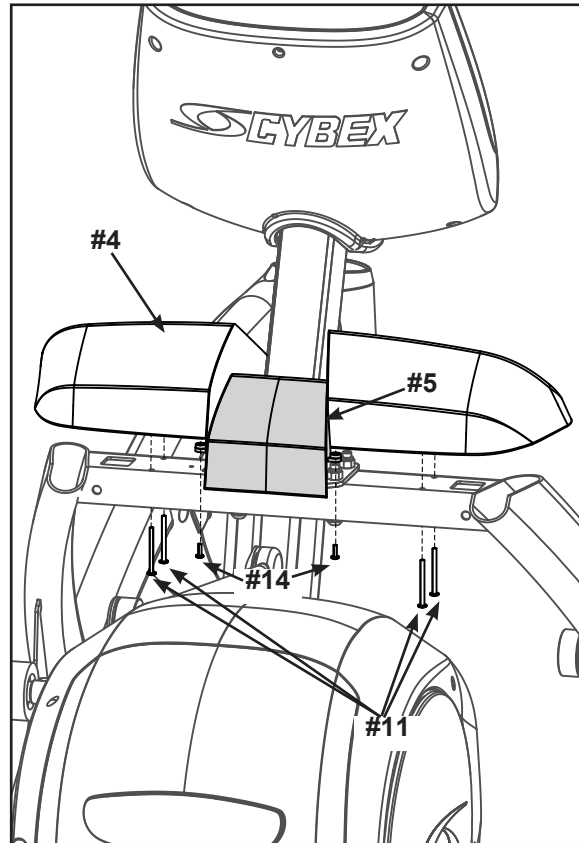

Figure 8
- B. Place the main tray (#4) in the correct position on the main frame assembly and hand thread the four **Tap SC 10-12 x 2.00 Type A PN HD PHIL (#11)**. See Figure 8.
- B. Place the insert tray in the correct position on the main frame assembly and hand thread the two **Pan HD Phil Hd Self Tapping, 8-16 x .50 Type WB (#14)**. See Figure 8.